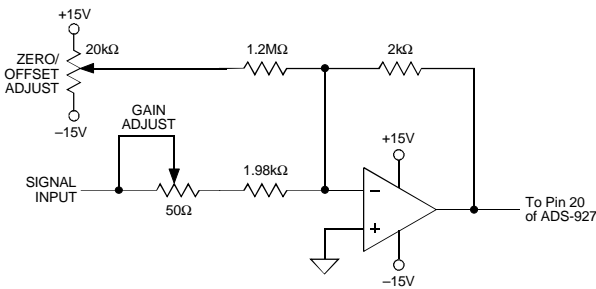

Figure 2. ADS-927 Calibration Circuit
Bypass all power supplies and the REFERENCE OUTPUT (pin 21) to ground with 4.7µF tantalum capacitors in parallel with 0.1µF ceramic capacitors. Locate the bypass capacitors as close to the unit as possible. If the user-installed offset and gain adjusting circuit in Figure 2 is used, also locate it as close to the ADS-927 as possible.
- need for external calibration. If required, the device's small initial offset and gain errors can be reduced to zero using the input circuit of Figure 2. When using this circuit, or any similar offset and gain-calibration hardware, make adjustments following warmup. To avoid interaction, always adjust offset before gain.
(Refer to Figures 2 and 3)
Any offset and/or gain calibration procedures should not be implemented until devices are fully warmed up. To avoid interaction, offset must be adjusted before gain. The ranges of adjustment for the circuit of Figure 2 are guaranteed to compensate for the ADS-927's initial accuracy errors and may not be able to compensate for additional system errors.
All fixed resistors in Figure 2 should be metal-film types, and multturn potentiometers should have TCR's of 100ppm/°C or less to minimize drift with temperature.